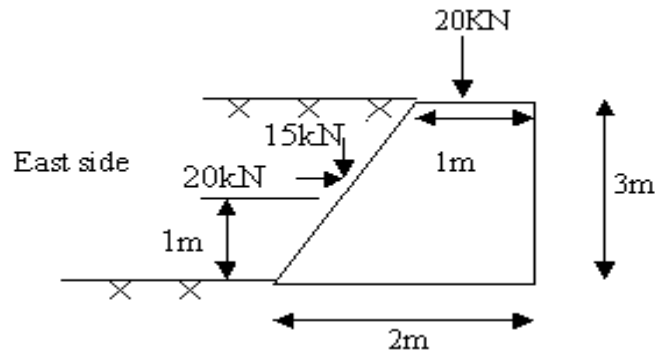

Figure 2:
8. The figure 2. shows the section of a stone masonry abutment used for a highway . bridge together with the forces acting per unit length of the abutment